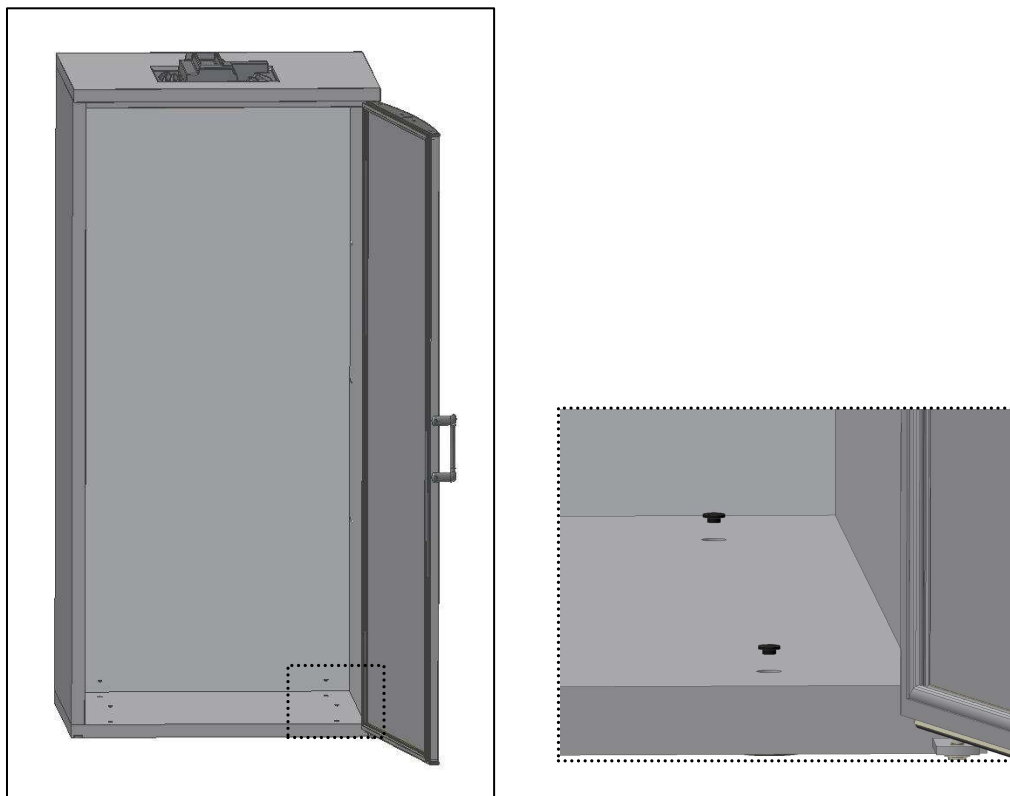

Fig. 11
- Insert **covers** in the bottom (Fig.11);